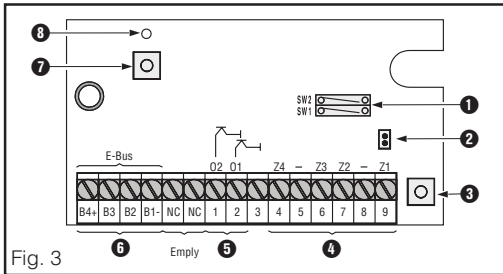
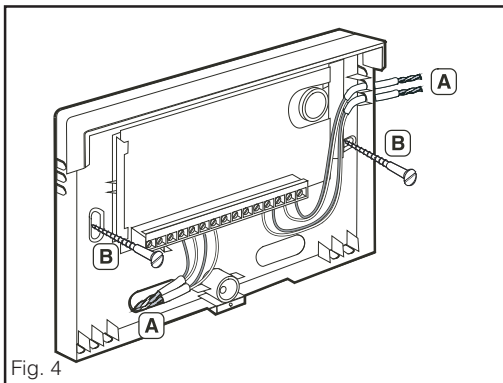

Fig. 3
Fig. 4
3.2.1 SMT 12 circuit board (fig. 3)
- Address key 7.
3.3 Fit SAT 12 housing (fig. 4)
- 1 - If necessary, break out the knockouts for cables (A).
- 3 - Secure the base using 2 screws (B).
The terminals are shown in fig. 3 and on the wiring diagram glued to the inside of the cover.
If the SMT 12 circuit board is not fitted in the SAT 12 housing, the plug connector (fig. 3 ②) must be connected to an external tamper contact or be short-circuited. Use the socket connector provided to connect to an external tamper contact.